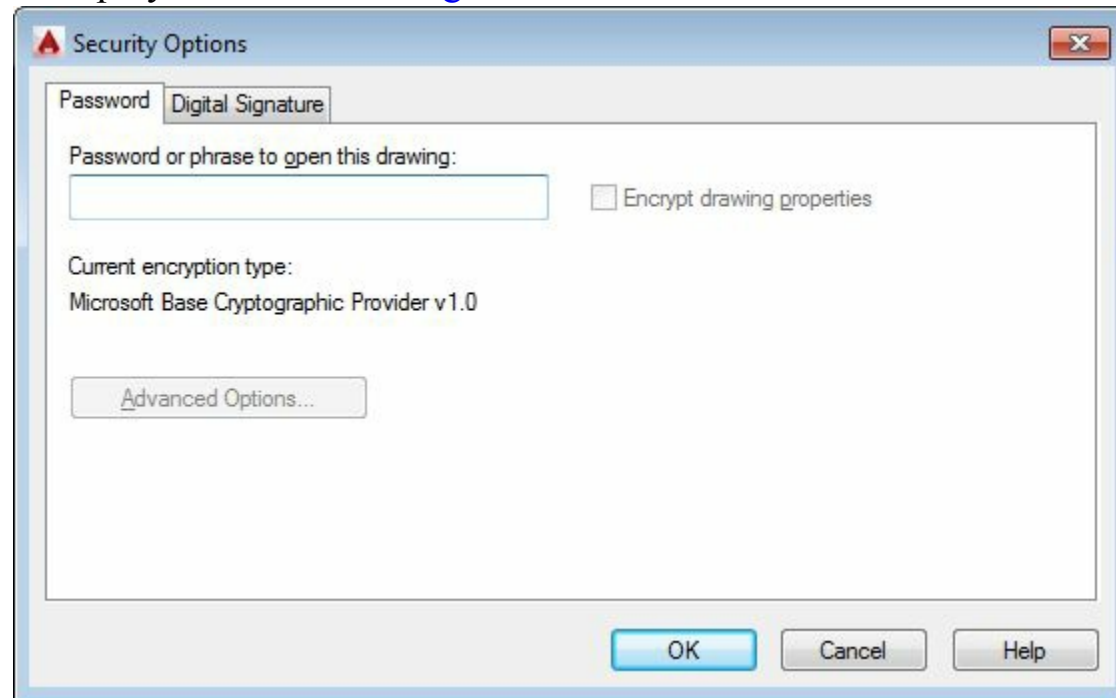

Figure-32. Security Options dialog box
- Click on the Security Options button in the drop-down. The Security Options dialog box will be displayed as shown in Figure-32.